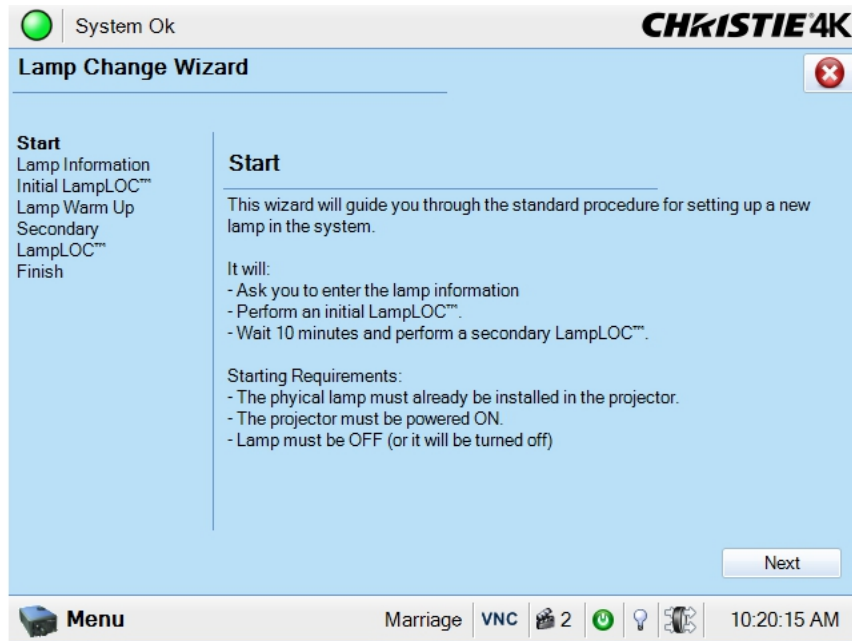

Figure 3-22 Lamp Change Wizard
3. Navigate to the **Advanced Setup>Lamp Change Wizard** window (**Figure 3-22**).